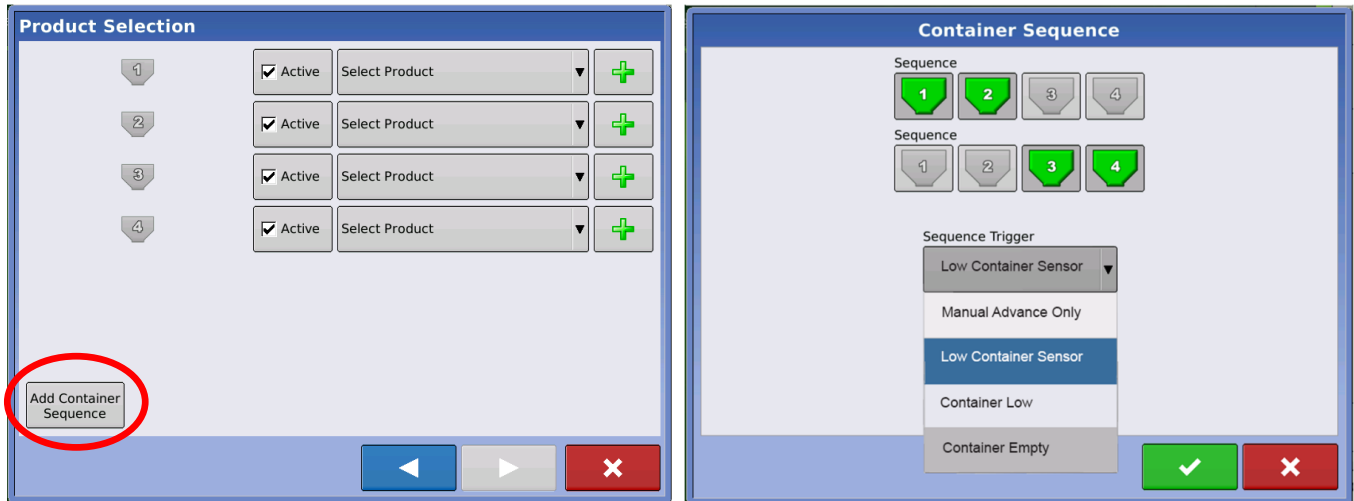

Figure 5: Configuring Container Sequencing
- **NEW:** Container Sequencing for Spinner Spreader Configurations. Apply the same product sequentially from multiple containers. Ag Leader Integra only. (Figure 5 and 6)
- **NEW:** Automatically advance through Container Sequences when product container is low or empty. (Figure 5)